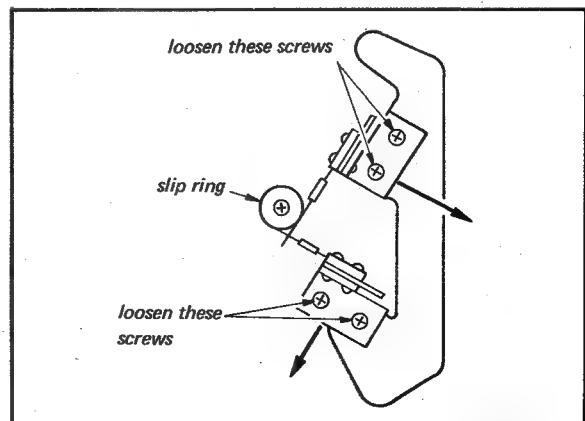

Fig. 4-5. Preparation for video head replacement
2. Remove the two Phillips screws that hold down the cover plate. Loosen the brush pressure adjusting screws and remove the brush from the spring as shown in Fig. 4-5.